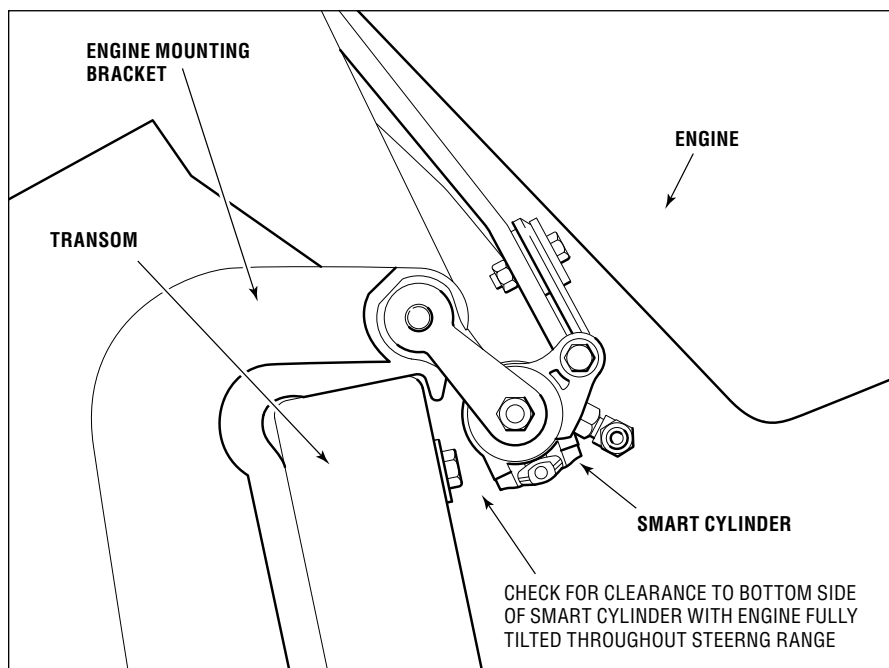
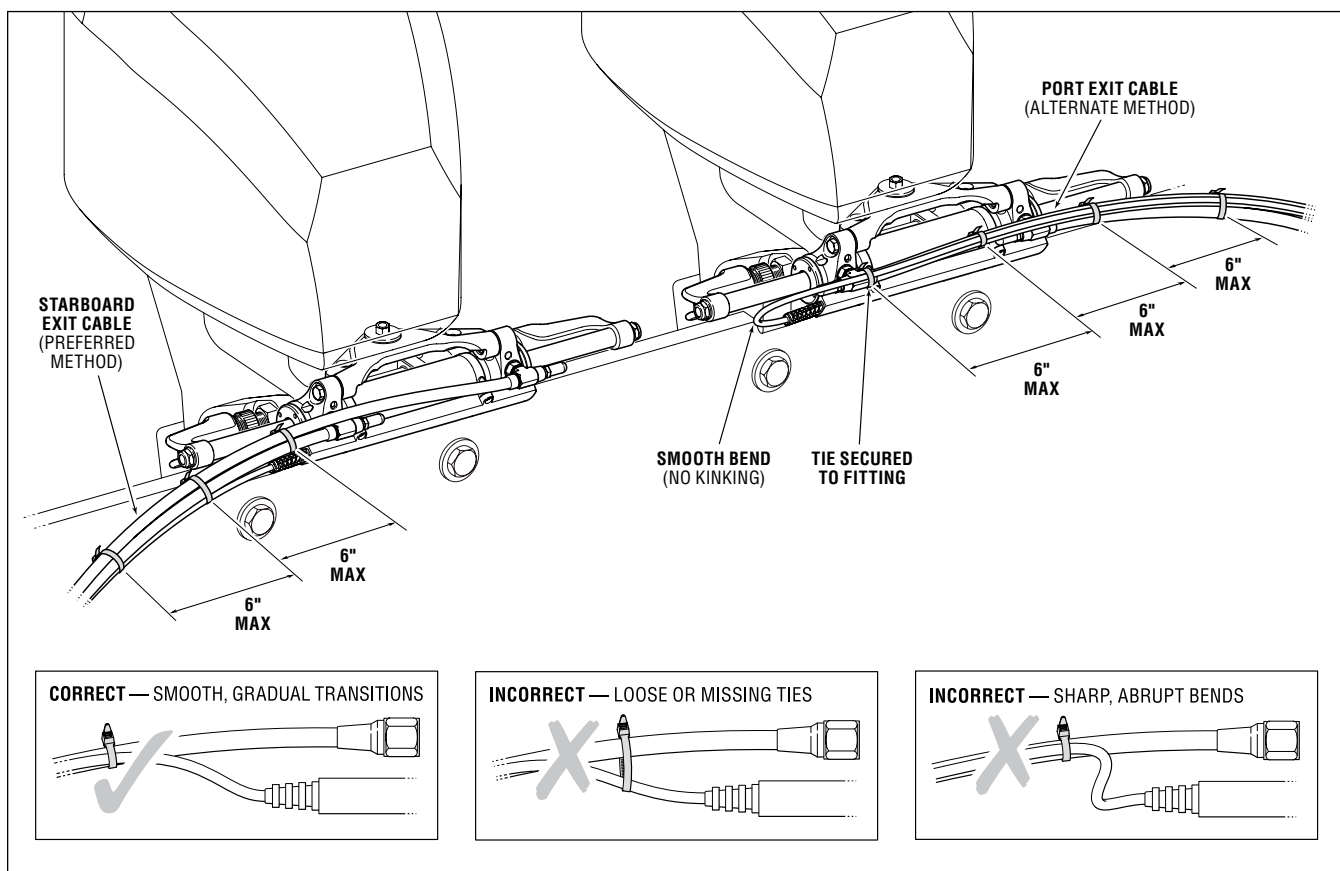

Figure 3-10. Engine side view when tilted.
Figure 3-11. Sensor cable and hose routing checks.
**1a. Outboard Interference Checks** – Confirm that there is no interference between the steering cylinder(s), splashwell, outboard engine(s), tie bars, or any combination of these parts, by performing the steps below. For each step also check that the hoses and harnesses are moving freely with no rubbing or binding (see figure 3-10 and figure 3-11). Be sure to steer slowly while performing these checks.
**2. Sensor cable** – Confirm that the SmartCylinder Sensor Cable is tied securely to the hoses with gradual bends as shown figure 3-11.